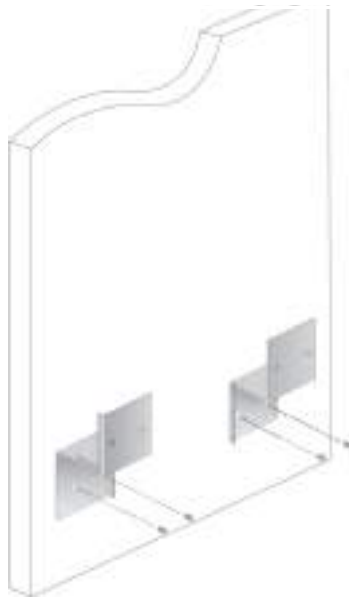

Figure 59. Driving the Screws through the Holes
6. Position brackets on the wall and drive screws through the holes to attach the brackets on the wall. See Figure 59.